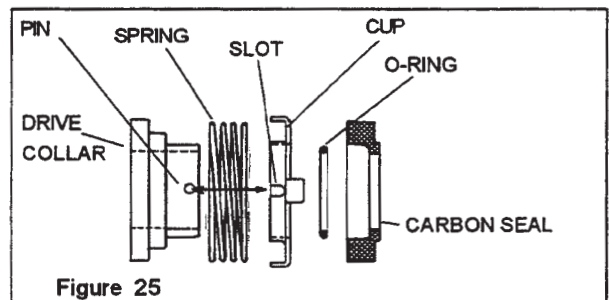

Figure 25
- Assemble the spring, seal cup, o-ring, and carbon seal, and install as a unit. Make sure the slot in the seal cup aligns with the pin on the shaft. (Figure 25) Gentle pressure on the o-ring will overcome resistance on the shaft.
- Assemble the gasket to the backplate. Install the backplate on the adapter. Make sure the seal cup slot is engaged with the pin on the drive collar. (Figure 25)
- Rotate the backplate until the backplate pins engage the adapter pins. (Figure 25)